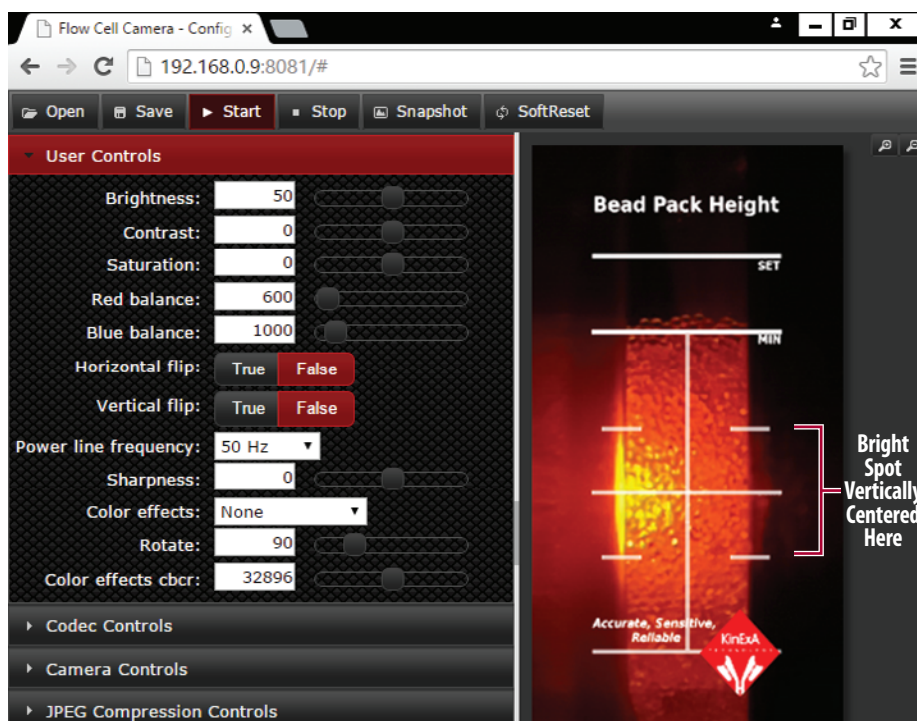

Figure 2A. Access the **START** button from the menu.
6. Before aligning the camera, make sure to select **Start** from the menu options to start a live feed of the camera image (**Figure 2A**).